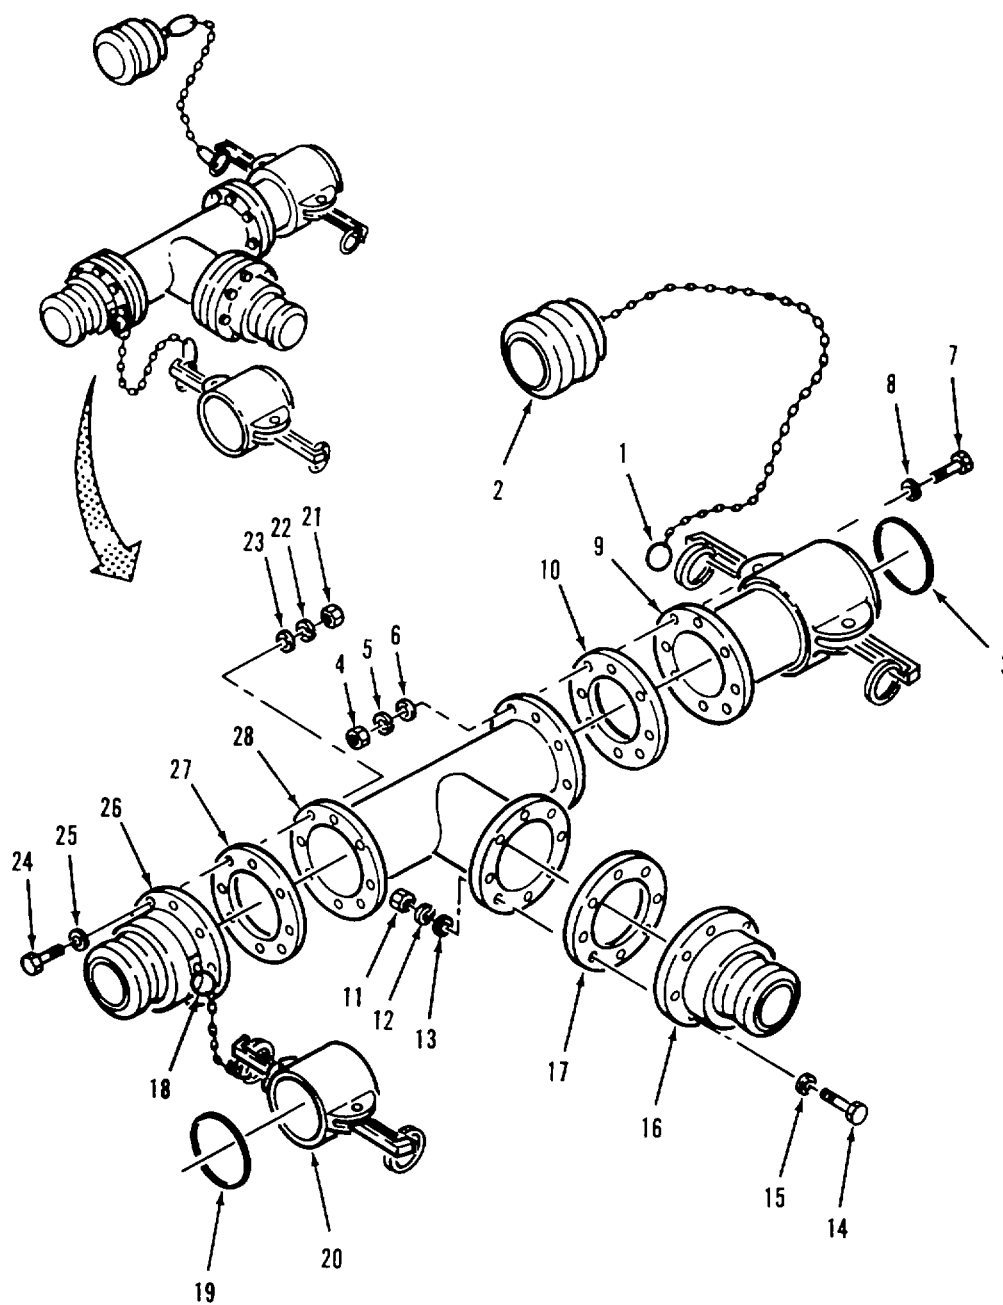

Figure 4-6. Tee Assembly (9117-Y1) Disassembly
a. Disassembly. Refer to figure 4-6
- (1) Disconnect E ing (1) from female coupling (9) and remove plug (2).
- (2) Remove gasket (3) from female coupling (9).
- (3) Remove eight nuts (4), lockwashers (5), flat washers (6 and 8), and bolts (7).
- (4) Separate female coupling (9) and gasket (10) from tee (28).
- (5) Remove eight nuts (11), lockwashers (12), flat washers (13 and 15), and bolts (14).
- (6) Separate male coupling (16) and gasket (17) from tee (28).
- (7) Disconnect ring (18) from male coupling (26) and remove cap (20).
- (8) Remove gasket (19) from cap (20).
- (9) Remove eight nuts (21), lockwashers (22), flat washers (23 and 25), and bolts (24).
- (10) Separate male coupling (26) and gasket (27) from tee (28).